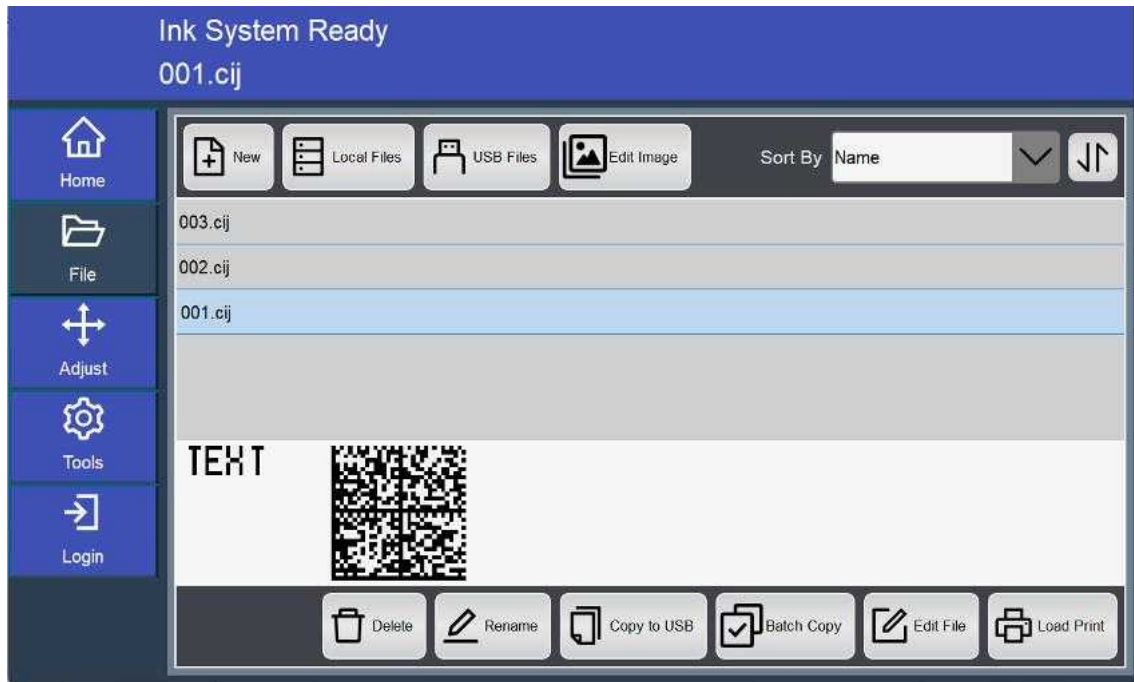

Figure 3-1 File Management Interface
1. Tap the  button on the main interface to enter the file management interface, as shown in Figure 3-1.